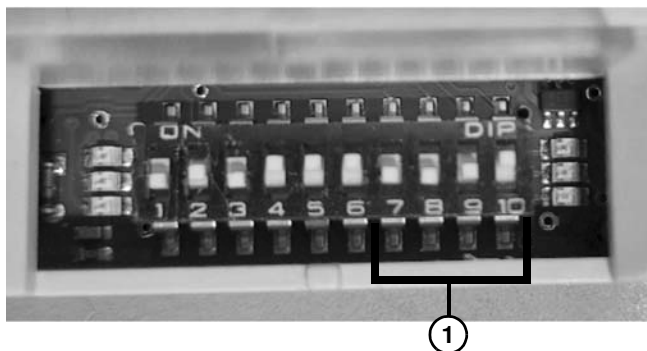

Figure 27
- Acceleration/Deceleration: DIP Switches 7-10 (**Figure 27, item 1**), and switch settings chart (**Figure 28**).